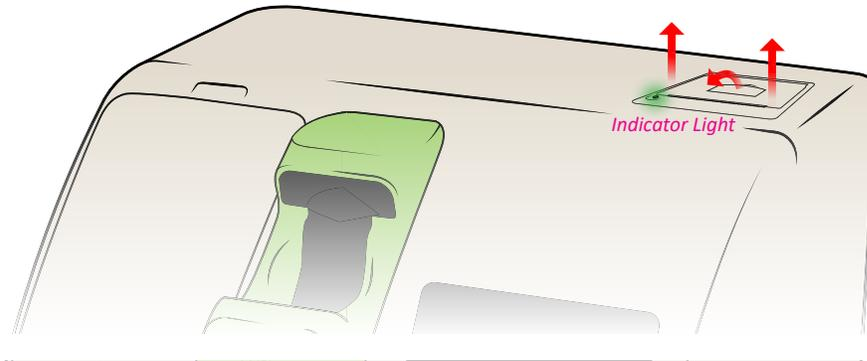

Figure 28
1. Pull the lever in Figure 28 until the lid is released from its locked position.
4. Reel off a few inches from a new roll of paper. Hold approximately two (2) inches of paper outside the printer as you place the new roll into the reservoir.